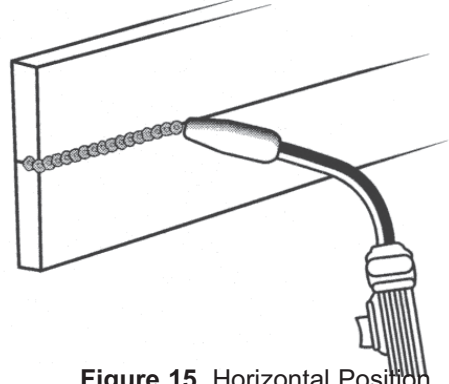

Figure 15. Horizontal Position
2. The **HORIZONTAL POSITION** (Figure 15) is next in difficulty level. It is performed very much the same as the flat weld except that angle B (see **HOLDING THE GUN** - p.18) is such that the wire, and therefore the arc force, is directed more toward the metal above the weld joint. This is to help prevent the weld puddle from running downward while still allowing slow enough travel speed to achieve good penetration. A good starting point for angle B is about 30 degrees **DOWN** from being perpendicular to the work piece.